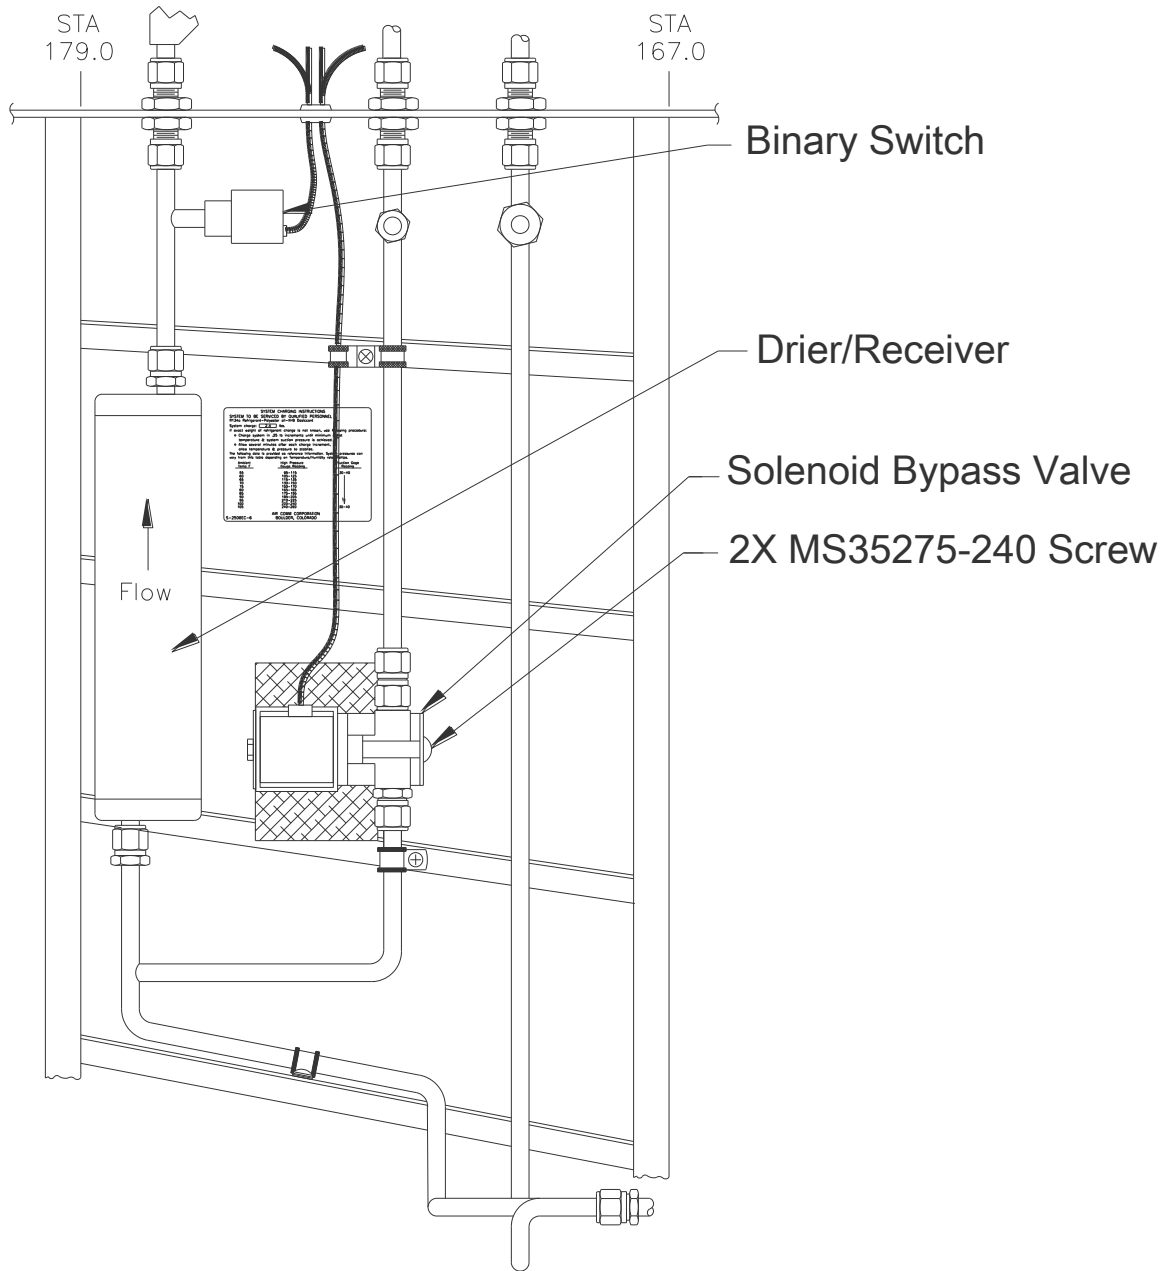

Figure 19: Binary Switch – View F-F
12. REMOVE AND REPLACE BYPASS VALVE (Figure 19).
13. REMOVE AND REPLACE BINARY SWITCH (Figure 19).